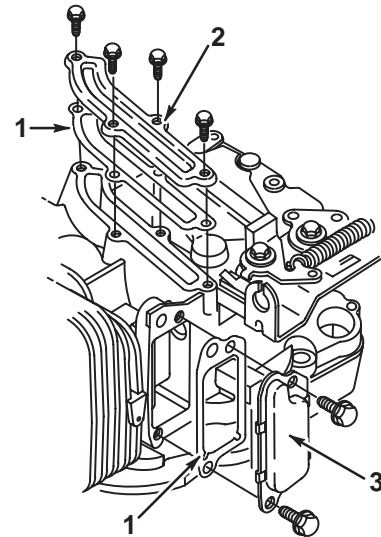

Fig. 111 – Removing Breather and Breather Passage Cover
2. Remove two screws holding breather to cylinder, Fig. 111.
3. Remove four screws holding breather passage cover and gasket, Fig. 111.
1. Install new breather passage gasket and breather passage cover on cylinder channel and torque four (4) screws to 30 in. lbs. (3.0Nm).
2. Place new breather gasket and breather on cylinder and install two (2) screws torquing screws to 65 in. lbs. (7.0Nm), Fig. 111.